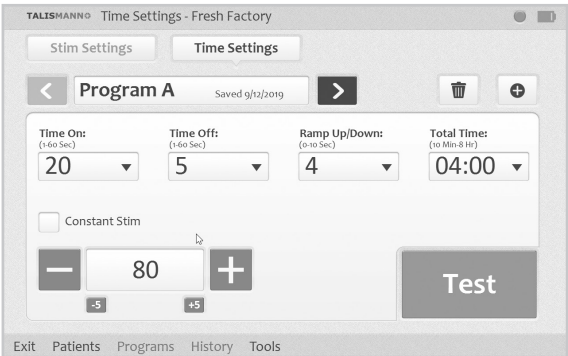

Figure 9-8: Time Settings window
2. The default time setting is constant stimulation. When “Constant Stim” is checked, “Time On” and “Time Off” are disabled; “Ramp Up/Ramp Down” and “Total Time” can be adjusted. See Figure 9-8. To change the “Time On” and “Time Off” settings, uncheck “Constant Stim” box and adjust “Time On” and “Time Off” using the drop-down lists.